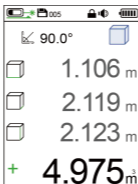

Figure 8 Second measured volume
Step 3: Repeat step 1 to measure the second volume, and the result is shown in Figure 8;